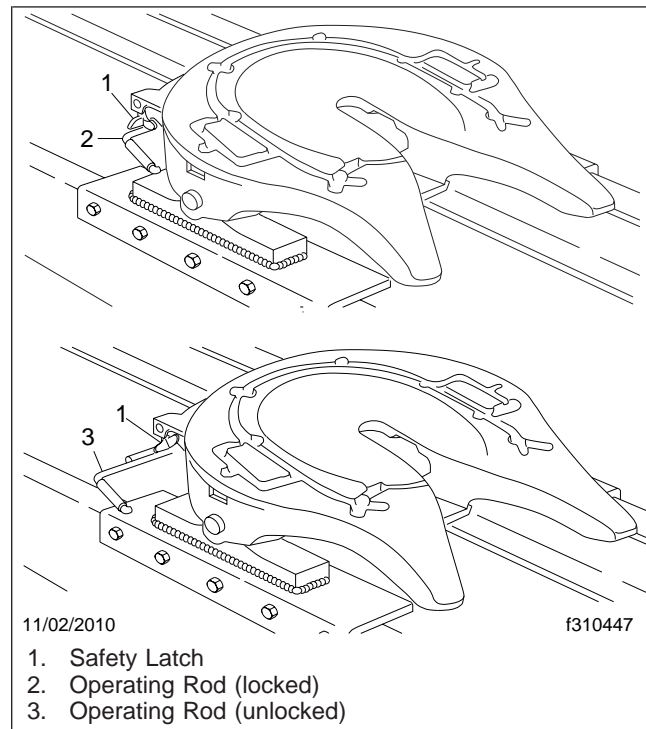

Fig. 10.11, Simplex Kingpin Locking Mechanism, Locking and Unlocking
pin to move out of the mechanism. With the jaw in the fully open position, the operating rod drops out of the lockset position, and the fifth wheel is ready for coupling. See Fig. 10.11.
- If equipped with a manual kingpin lock release:* Release the kingpin lock mechanism by raising the safety latch to the rear and pulling the lock operating rod out and up into the lockset position. See Fig. 10.11. The offset of the lock control upper rod should bottom against the plate casting above the hole. If the operating rod cannot be pulled to the lockset position, back the tractor slightly to release the kingpin force against the jaw.
If equipped with an air-operated kingpin lock release: Pull the air-release knob on the dash. From outside the cab, visually check that the operating rod has bottomed out against the plate casting above the hole. See Fig. 10.11. If the operating rod isn't in the unlocked position, back the tractor slightly to release the kingpin force against the jaw.